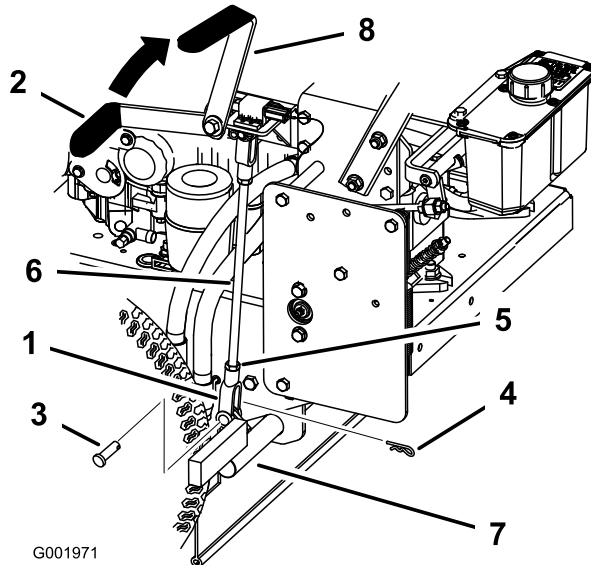

Figure 59
5. Loosen the top and bottom jam nuts (Figure 59).
6. To adjust the brake, remove the hair pin cotter and clevis pin from the lower brake lever (Figure 59).
7. Rotate the brake rod in the yokes. To tighten the brake, lengthen the rod between the yokes. To loosen the brake, shorten the rod between the yokes (Figure 59).
8. Secure the yoke to lower brake lever with the hair pin cotter and clevis pin (Figure 59).
9. Tighten the top and bottom jam nuts (Figure 59).